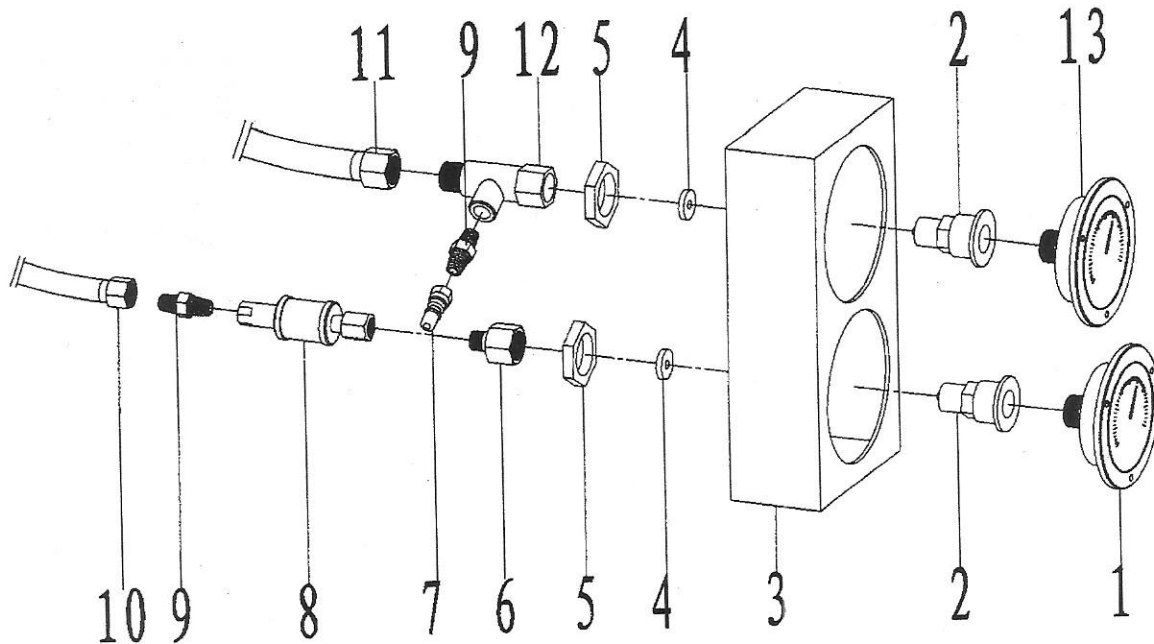

Fig30
27.Oil filled equipment (Fig30, Table27)